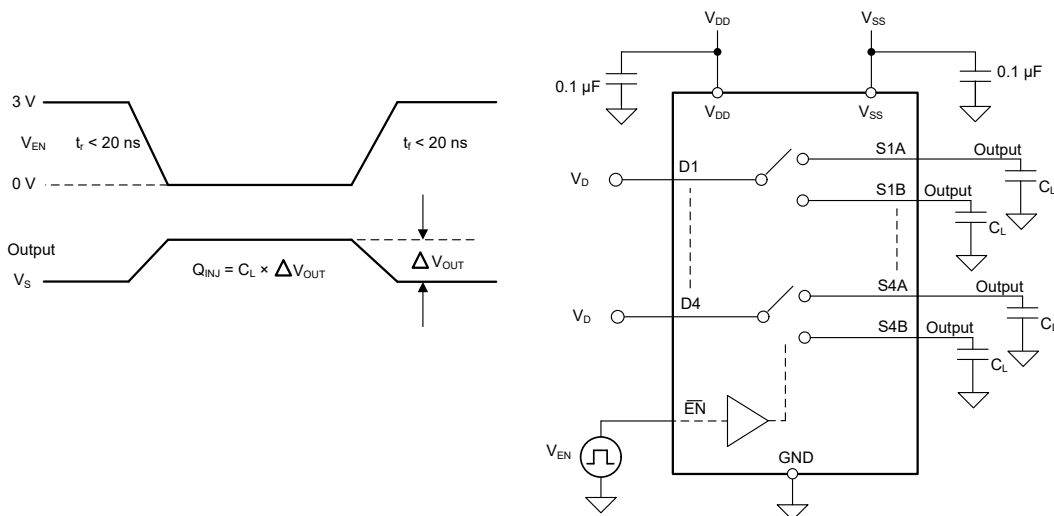

Figure 7-9. Charge-Injection Measurement Setup
The TMUX6234 has a transmission-gate topology. Any mismatch in capacitance between the NMOS and PMOS transistors results in a charge injected into the drain or source during the falling or rising edge of the gate signal. The amount of charge injected into the source or drain of the device is known as charge injection, and is denoted by the symbol Q_{INJ} . Figure 7-9 shows the setup used to measure charge injection from source (S_x) to drain (D).